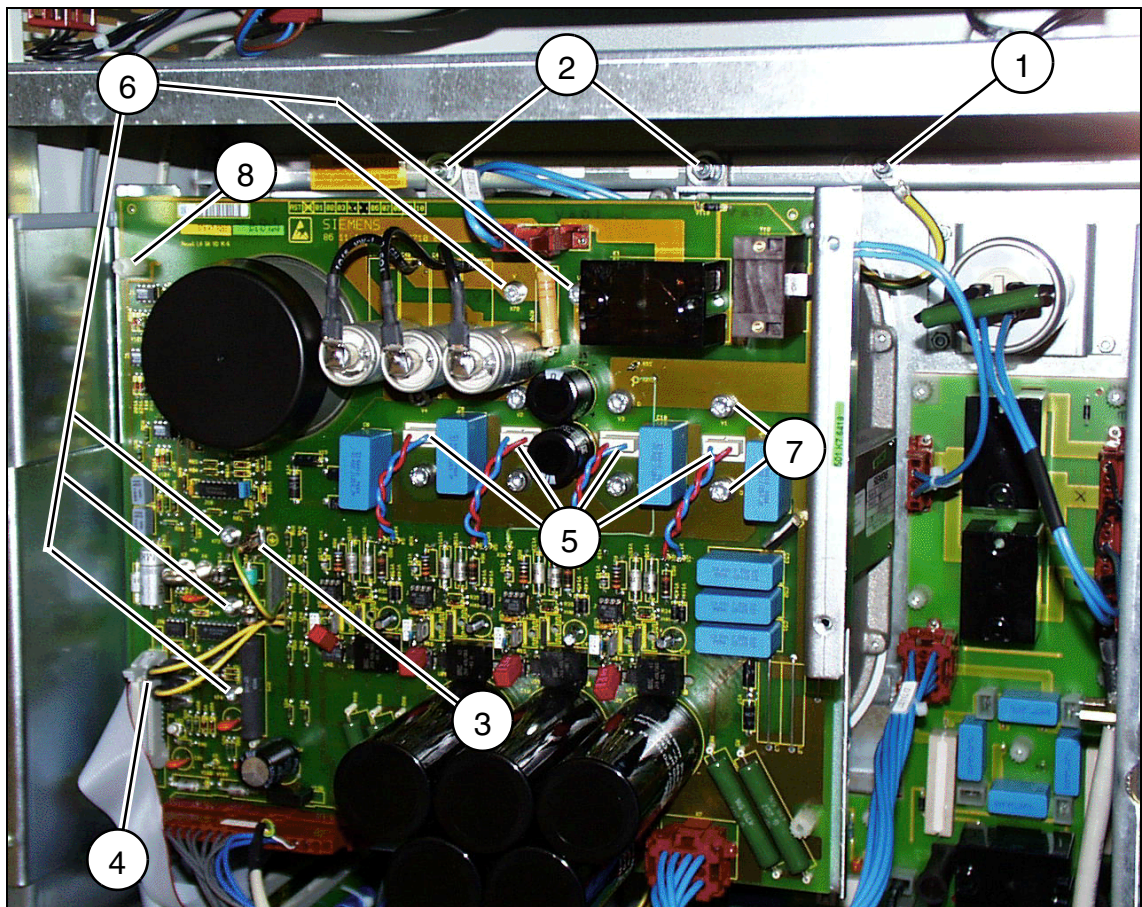
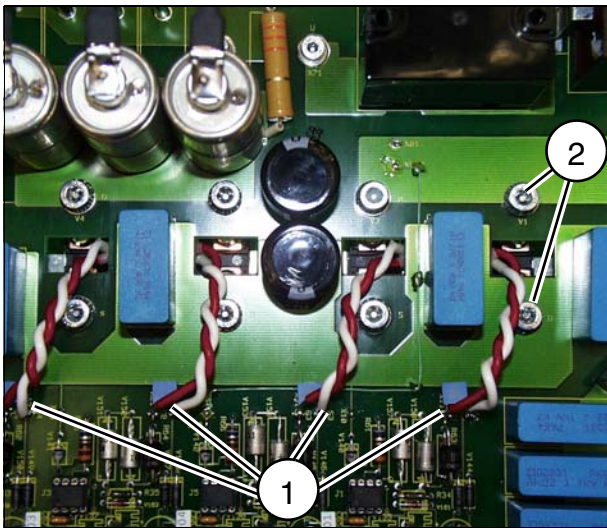

Fig. 1
Fig. 2
- Remove the ground cable at the back wall of the generator (1/ Fig. 1).
- Remove the 2 attachment screws (2/Fig. 1) from the high voltage generator.
- Remove ground cable X1 (3/Fig. 1).
- Label wires X101 and X102 and disconnect them (4/Fig. 1).
- Disconnect the 4 plugs of the transistor module (V1 - V4) (5/Fig. 1).
- Desolder the 8 connection wires from the transistor module (V1 - V4) on D710 (1/Fig. 2).
- Remove the 5 Allen screws X71 - X75 (6/Fig. 1).
- Remove the 8 Allen screws (7/Fig. 1 or 2/Fig. 2) of the transistor module.
- Remove the 5 plastic nuts (8/Fig. 1).
- Attach D710 to the transistor module unit with the 8 Allen screws (M5 x 10) (2/Fig. 2).
- Tighten the 5 Allen screws X71 - X75 (6/Fig. 1).
- Tighten the 5 plastic nuts (8/Fig. 1).
- Connect wires X101 and X102 (4/Fig. 1).
- Connect the ground cable X1 (3/Fig. 1).